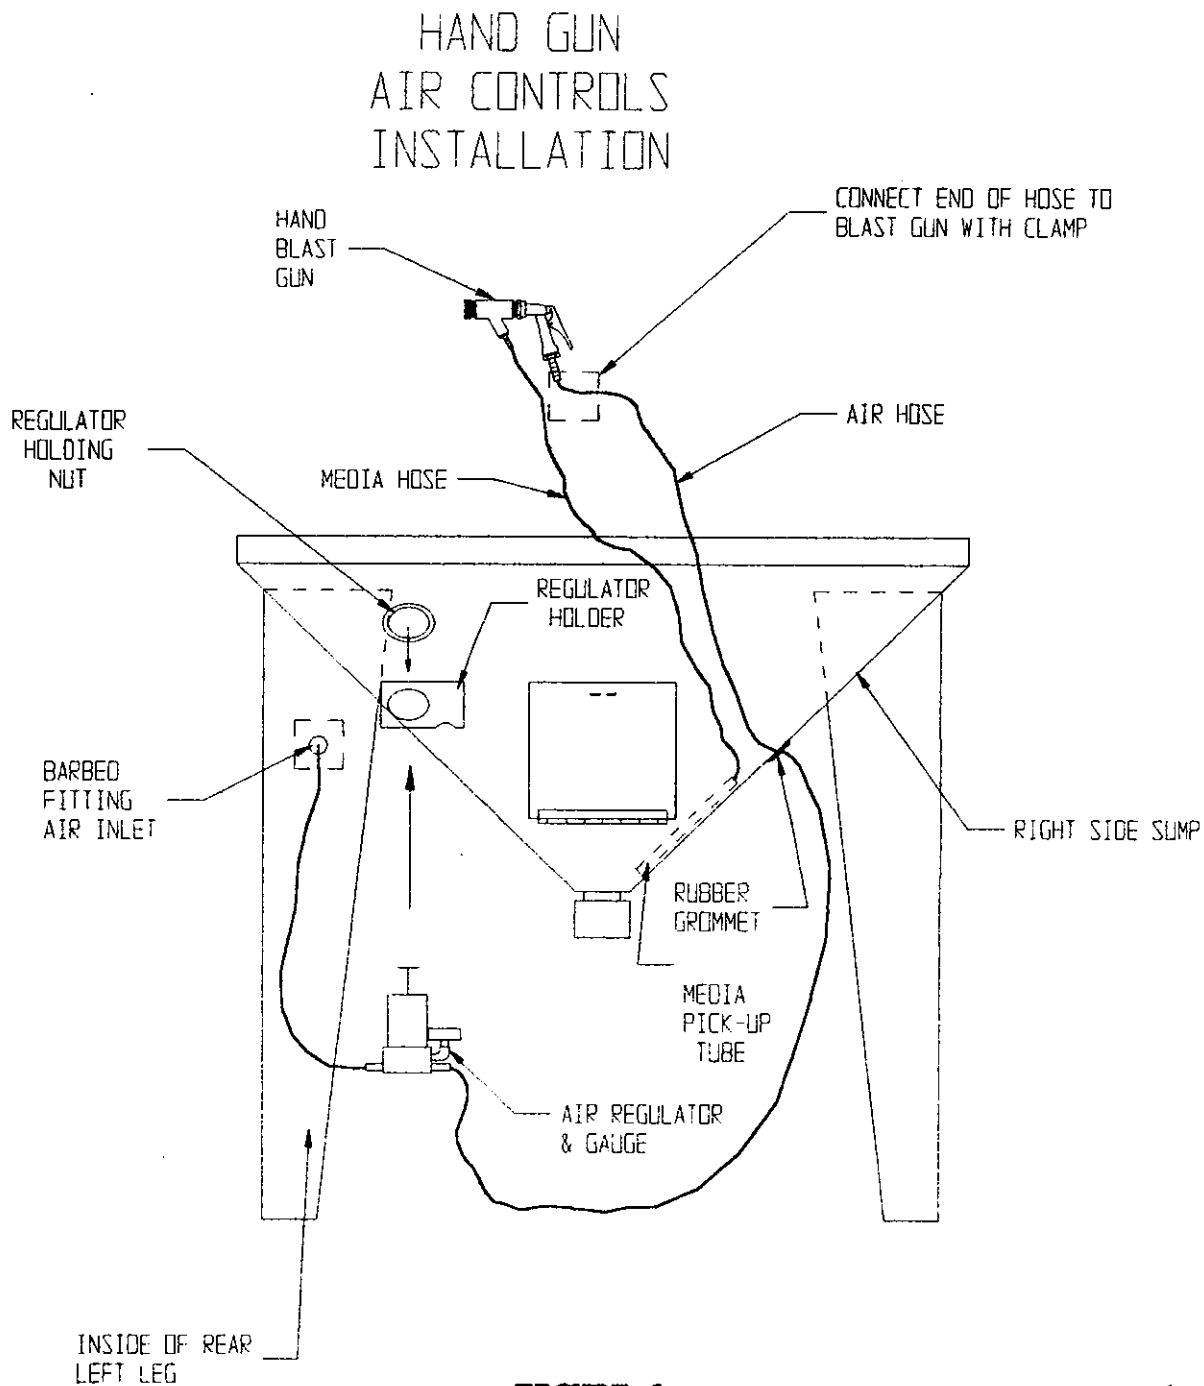

FIGURE 1
HAND GUN & AIR CONTROLS. (SEE FIGURE 1)
7. Install hand gun & air controls. (See Figure 1) Position hoses into slot provided in the grate. Lower grate back into place.